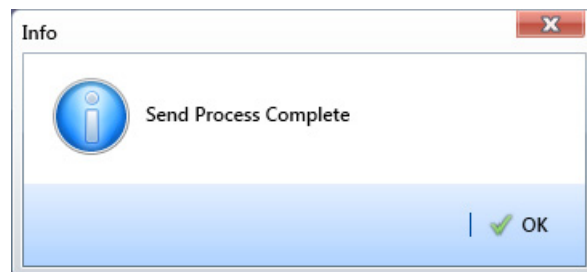

Figure 8-48. Send Process Complete
- 29 Click  **OK** when the message *Send Process Complete* displays (Figure 8-48). PCS Axis sends the survey file to the *PSData* folder on the Allegro.